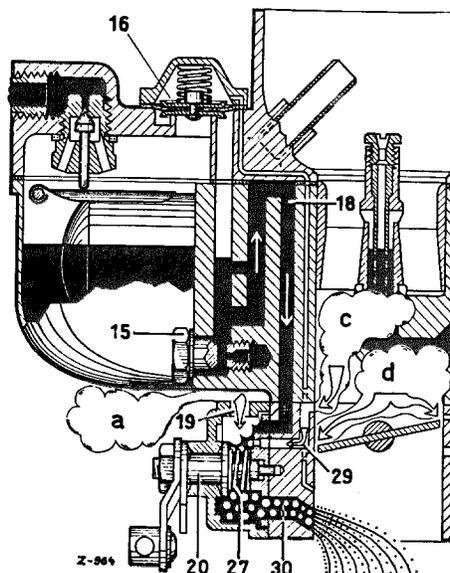

Fig. 07-0/13
At the same time air is drawn from the suction canals of the carburetor through the canal (29). In the chamber (31) of the starter rotary slide valve this additional air mixes with the pre-mixture which enters the starter mixing chamber (27) via the graded bore (32) in the starter rotary slide valve. Here the mixture combines with the pre-mixture entering through the graded bore (33) in the starter rotary slide valve and the air entering through the starter air bore (19) in the starter housing which acts as a starter air jet. The fuel-air mixture which is now formed passes through the aperture (34) in the starter rotary slide valve and the starter mixture canal (30) into the two suction canals of the carburetor and together with the air streaming through the throttle valve gap forms the final start mixture. Fig. 07-0/13 shows the mode of action of the starter mechanism phase I when the engine is being started.